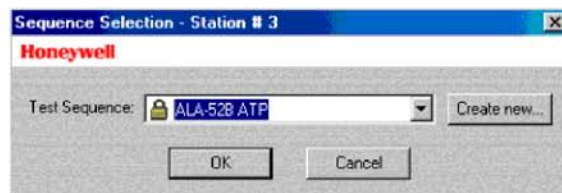

Figure 8. ALA-52B ATP Sequence
- 2 The Sequence Selection dialog will open. Select the ALA-52B ATP sequence (see Figure 8).